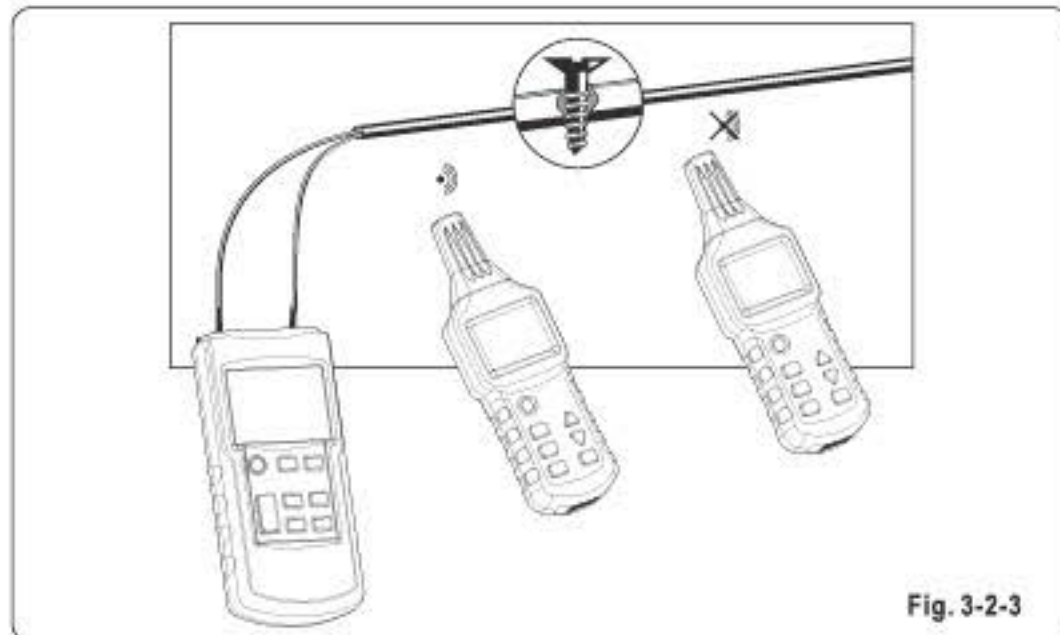

Fig. 3-2-3
- Connect the transmitter according to Fig.3-2-3;